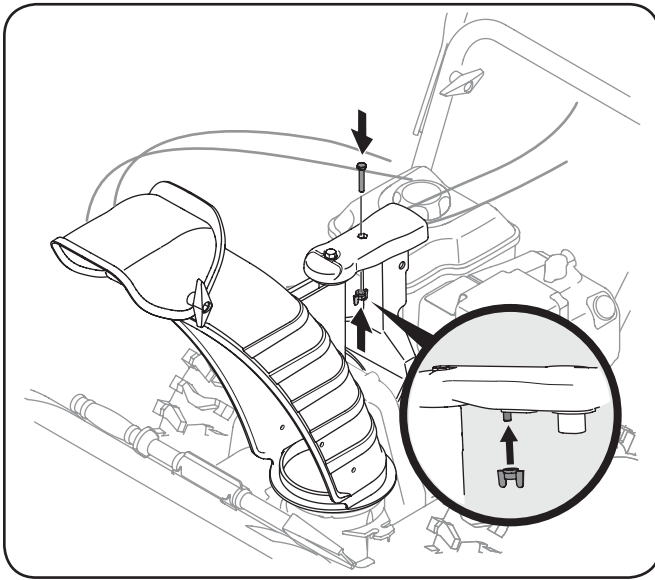

Figure 3-4
3. Finish securing chute control assembly to chute support bracket with wing nut and hex screw removed earlier. See Fig. 3-4.